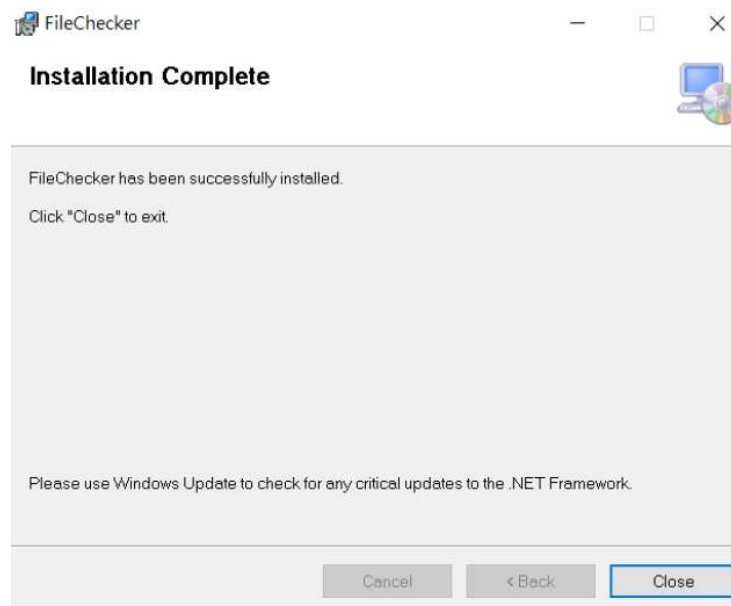

Figure 66
5. Installation complete, Please Click “ Close ”, as shown in Figure 66.